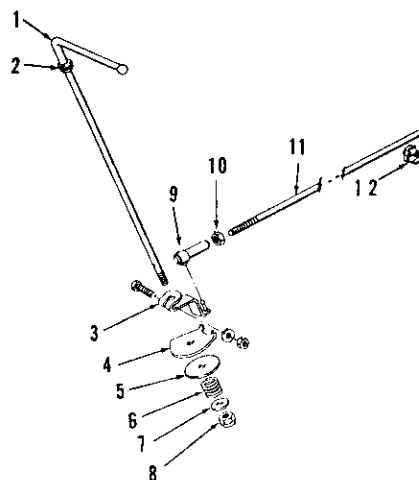

Fig. 141-Exploded view of typical hand throttle lever and linkage; some models have spring washer instead of coil spring (6).
160. Refer to exploded view of typical hand operated throttle linkage in Fig. 141. With the throttle link (11) disconnected from injection pump governor arm and with engine governed speed adjusted as outlined in paragraph 158 or 159, proceed as follows: Move hand lever (1) to rear against slow idle stop and hold pump governor arm against slow idle speed stop screw; forward end of link (11) should then enter hole in governor arm without binding. If not, loosen lock nut (10) and turn link in or out of end assembly (9) as required. With link length properly adjusted, reconnect link to pump governor arm with retainer (12) and tighten lock nut (10). With engine running, check operation of throttle; there should be sufficient tension on spring (6) (some models have spring washer instead of coil spring) so that hand lever will remain in any desired position, yet move without excessive binding.